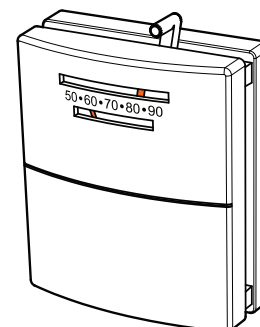

Figure 20.5
3. There is a 4 screw terminal block located on the back lower left corner of the appliance directly above the power cord inlet. The center 2 screws are for the thermostat wires (**Figure 20.5**).